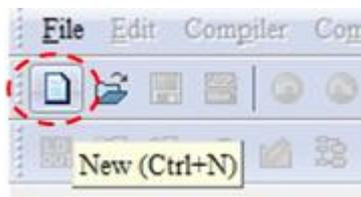

Figure 16-11
Step 3. To open a new project file, on the Toolbar, click the New  button (or press Ctrl+N) (see Figure 16-11).